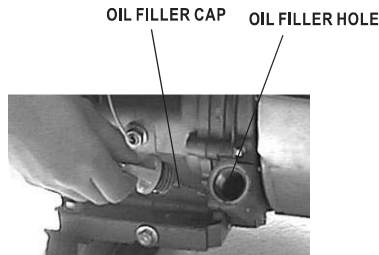

Figure 8- Unscrewing the oil cap
2. Remove the oil filler/dipstick cap from the engine as shown in figure 8.